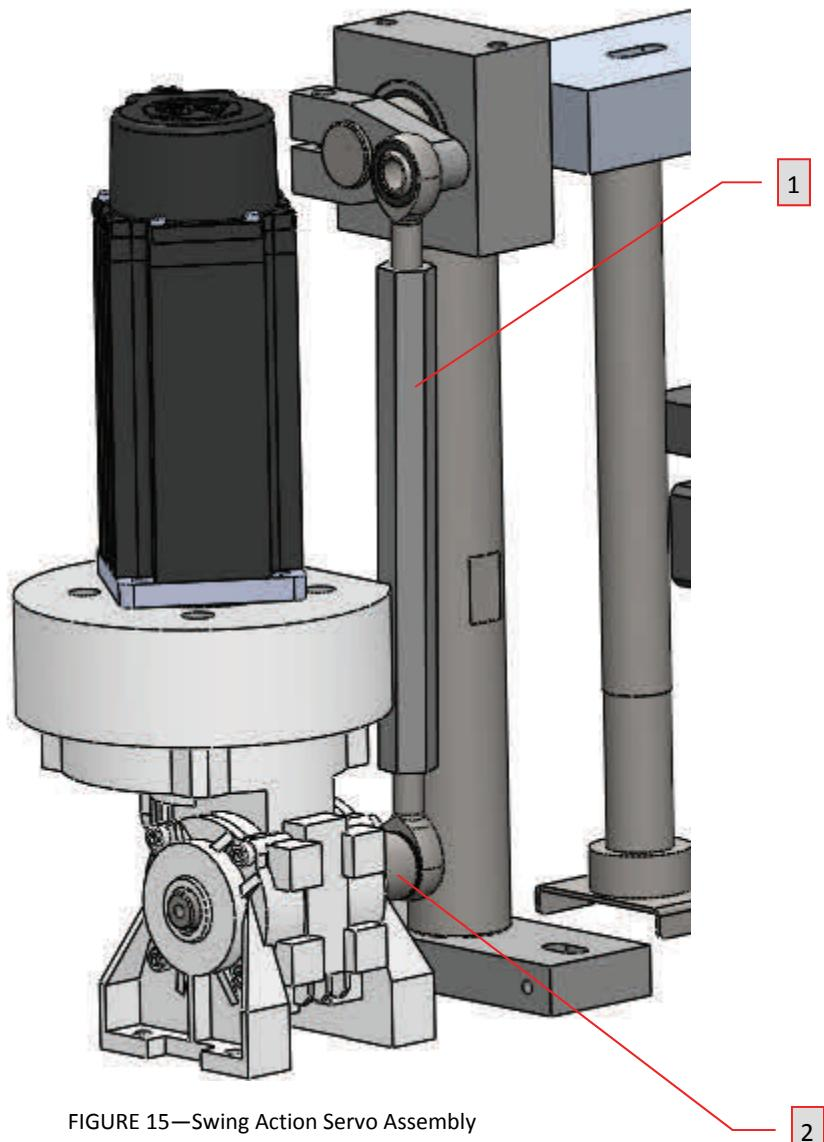

FIGURE 15—Swing Action Servo Assembly
1. **Bar Cutter Knife** – The bar cutter knife moves vertically (in and out of the product) at a very rapid speed. It also moves horizontally with the product on the belt to insure minimum distortion of the cut. See Figure 15 below for detail of the adjustment mechanisms.
4. **Bar Cutter Drive Motor (shown without cover)** – See Figure 15 for more detail.